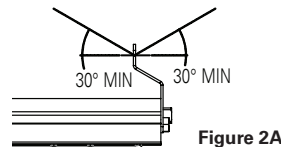

Figure 2A
3. Mount the chain mount brackets on luminaire using two (2) hex head 3/8-16 x 1/2" screws. Torque 3/8-16 screws to 20 ft.-lbs. (27 N-m).
4. Luminaire is now ready for mounting with chain. Chain angle must be greater than 30° in relation to light luminaire (see Figure 2A).